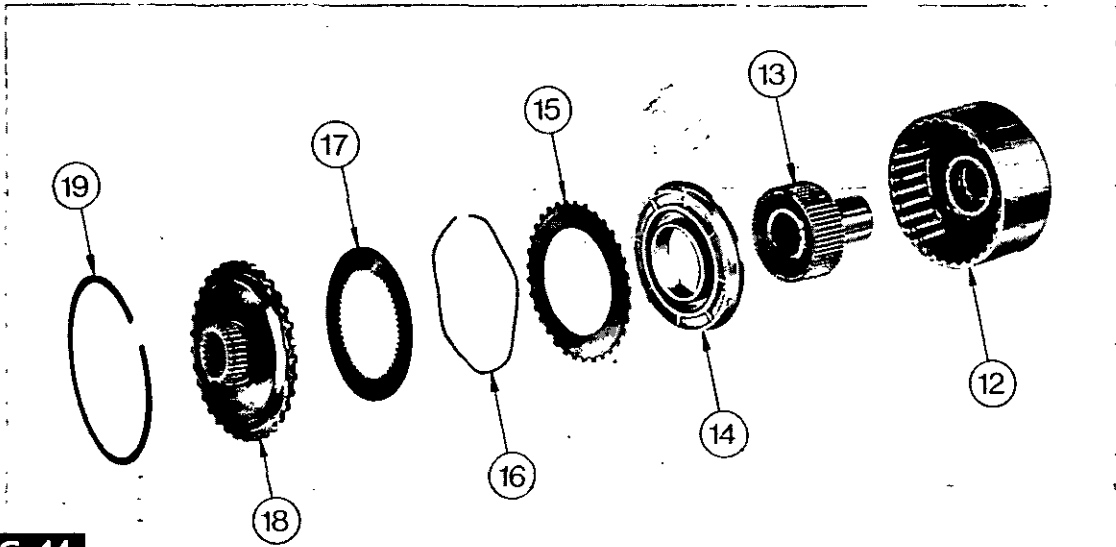

FIG. 14
3. Fig. 14. Remove the snap ring (19) and then lift out the clutch cover plate (18).
4. Remove the centre hub (13).
5. Remove the seven friction discs (17), springs (16) and pressure plates (15).
6. Invert the housing (12) and tap out the piston (14). If necessary remove the piston ring.